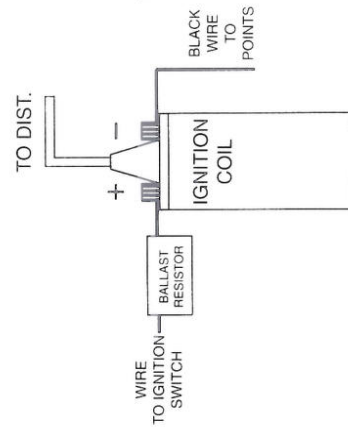

FIGURE 2
5. The **red** wire from the Ignitor must be connected to the **positive** side of the coil, or a 12-volt (+) switched power source. (See Figure 2 & 3). The black wire must be connected to the negative (-) side of the coil.